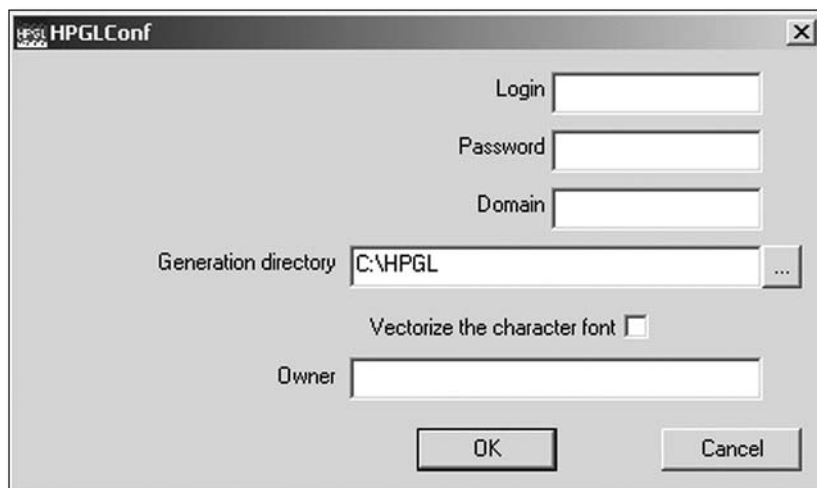

Figure 17. A **Generation Directory** where FlexPlot will find the files.
5. Choose a **Generation Directory** (the default location where marker files are stored by the program). You will setup **FlexPlot** to look in this location later. If the folder is located on a network, you may have to provide login information. Also remember to *uncheck* the *Vectorize the Character Font* box. (*Figure 17*).